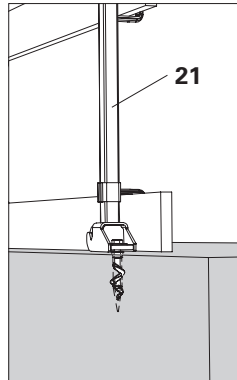

Fig. A7.05a
- Tighten and slightly tension the bolt M16 x 120 (**24**) together with washer ISO 7094 100 HV, A16 (**25**). (Fig. A7.05a + A7.05b + A7.06)